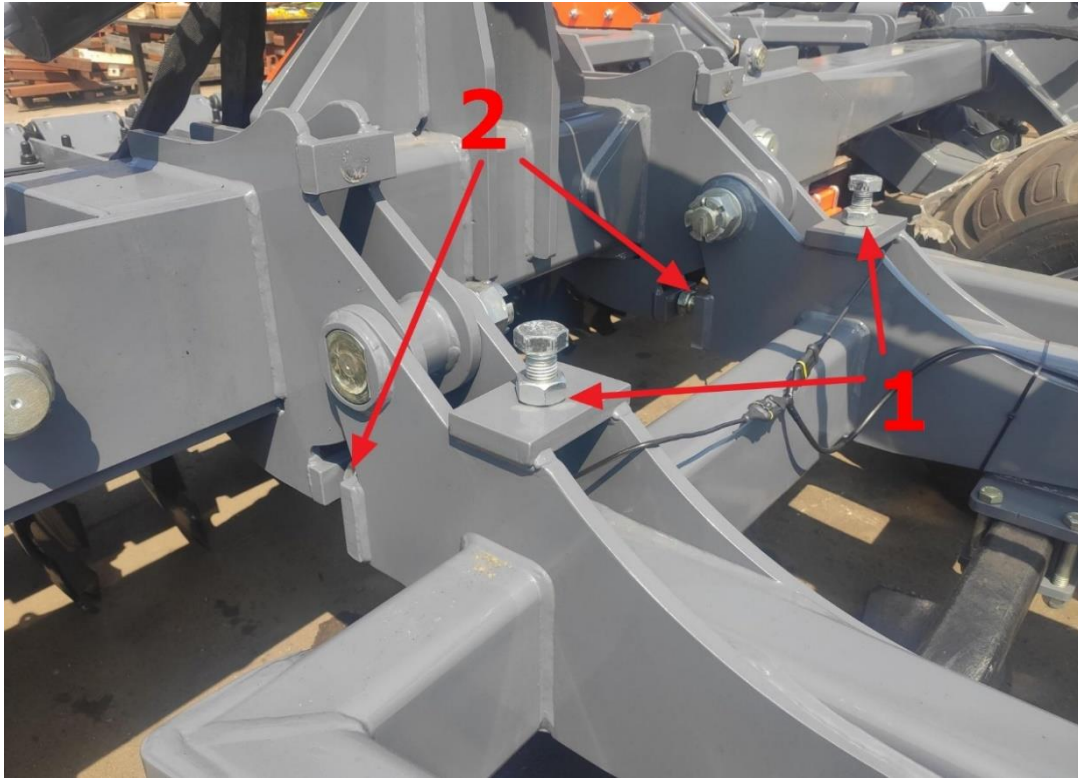

Figure 40 Placement of machine wing adjustment screws in position when: 1-Machine wings are folded, 2-Machine wings are unfolded.
Levelling the machine is also possible thanks to the adjustment screws at the rear of the chassis. The vertical bolts (item 1, fig. 40) adjust the position of the disc harrow when
the machine is folded. The horizontal screws (item 2, fig. 40) adjust the level of the disc harrow when the machine is unfolded.